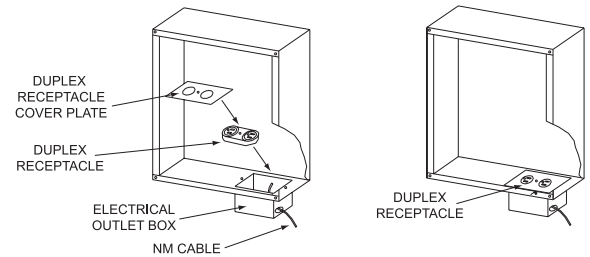

Figure 3 (where permitted by local code, otherwise, conduit is required)
F. Duplex Receptacle - Figure 3 (Rough-In)